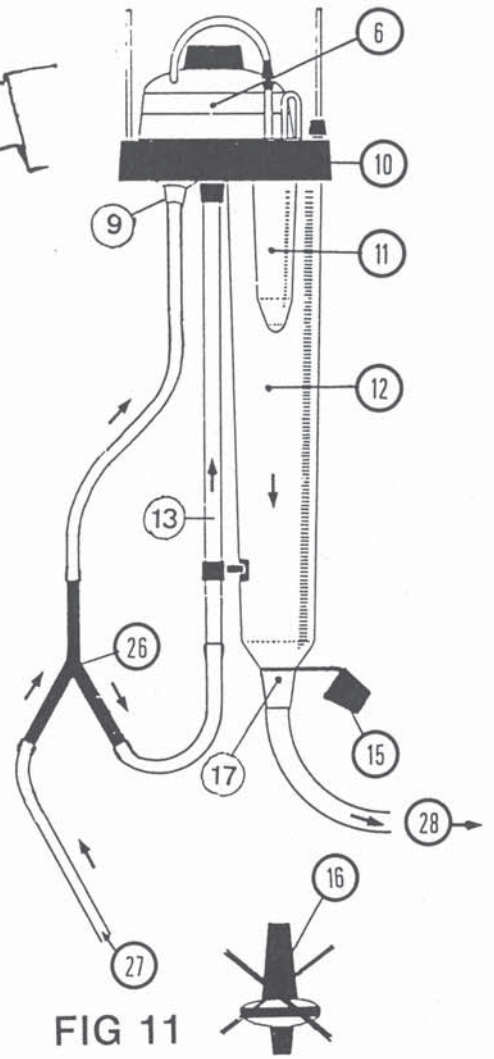

FIG 11
Connect the Y-shaped fitting (Fig 11, item 26) supplied to the inlet tube (Fig 11, item 13) and the outlet stud (Fig 11, item 9) as shown in Fig 11.
Connect the hose from the milk claw (Fig 11, item 27) to the Y-shaped fitting and connect the hose from the milk line or vacuum source (Fig 11, item 28) to the bottom of the measuring chamber (Fig 11, item 17).
The cleaning fluid should be drawn through the meter in the direction shown in Fig 11.
After cleaning, keep the rubber cap (Fig 11, item 15) off of the meter to ensure proper draining of the measuring chamber.